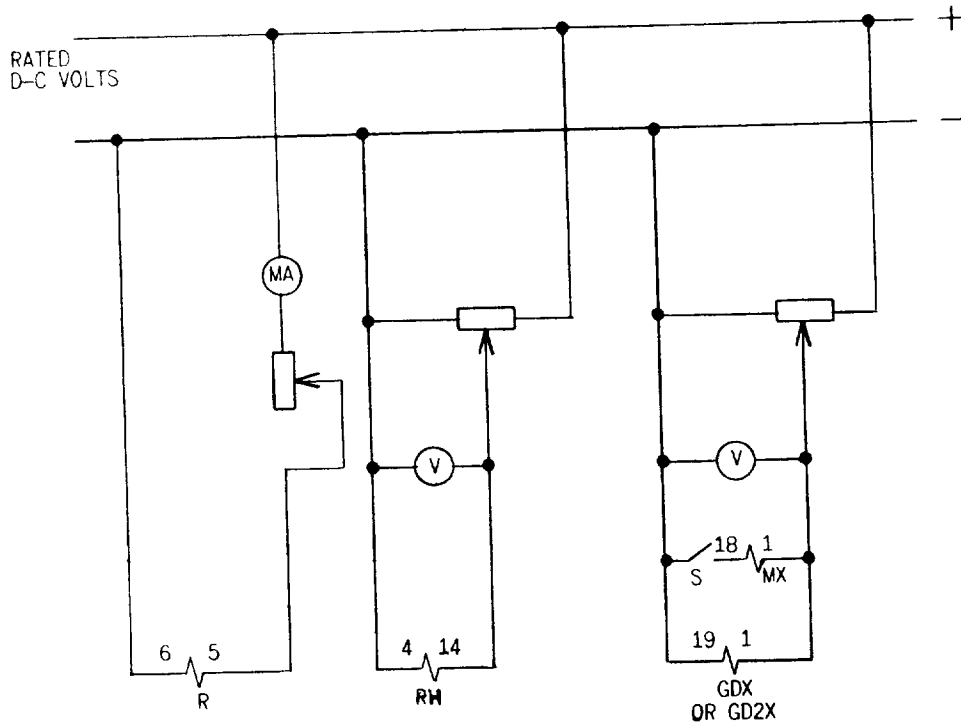

FIG. 6 (0148A4003-1) LABORATORY TEST CONNECTIONS DIAGRAM FOR THE BCA11AV RELAY
Receiver Unit - Connect the operating (R) and holding (RH) circuits of the receiver unit as shown in Figure 6. With the holding coil (RH) de-energized increase the current slowly in the operating coil (R) and check that the unit operates to the right below the limit specified in the section on CHARACTERISTICS-PICKUP AND DROPOUT for the model involved. Reduce the current slowly and check that the unit resets to the left within the limits tabulated.
Auxiliary Units - With the MX and GD2X circuits connected as shown in Figure 6 check that MX picks up when 80 percent of rated voltage is suddenly applied across terminals 1-18. Then check that when the voltage across 1-19 is slowly increased GD2X picks up at less than 80 percent of rated voltage.